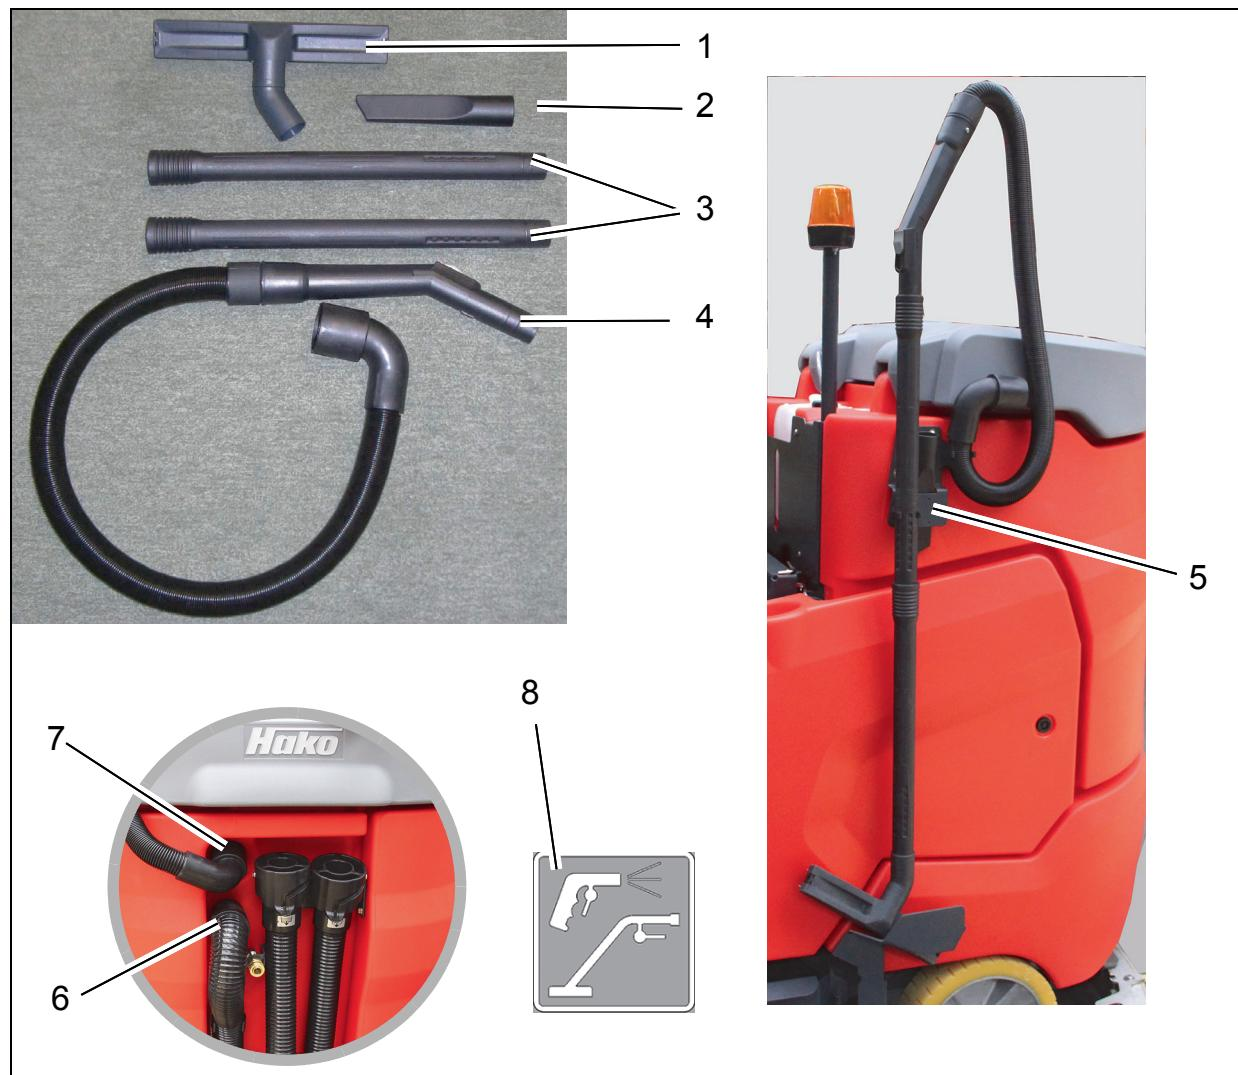

Fig. 1
1. Move suction hose of machine (Fig. 1/6) to park position.
2. Fit hose of tool into the opening of the vacuum system (Fig. 1/7).
Use the *Tool Operation* button (Fig. 1/8) on the control panel to switch the tool on and off.